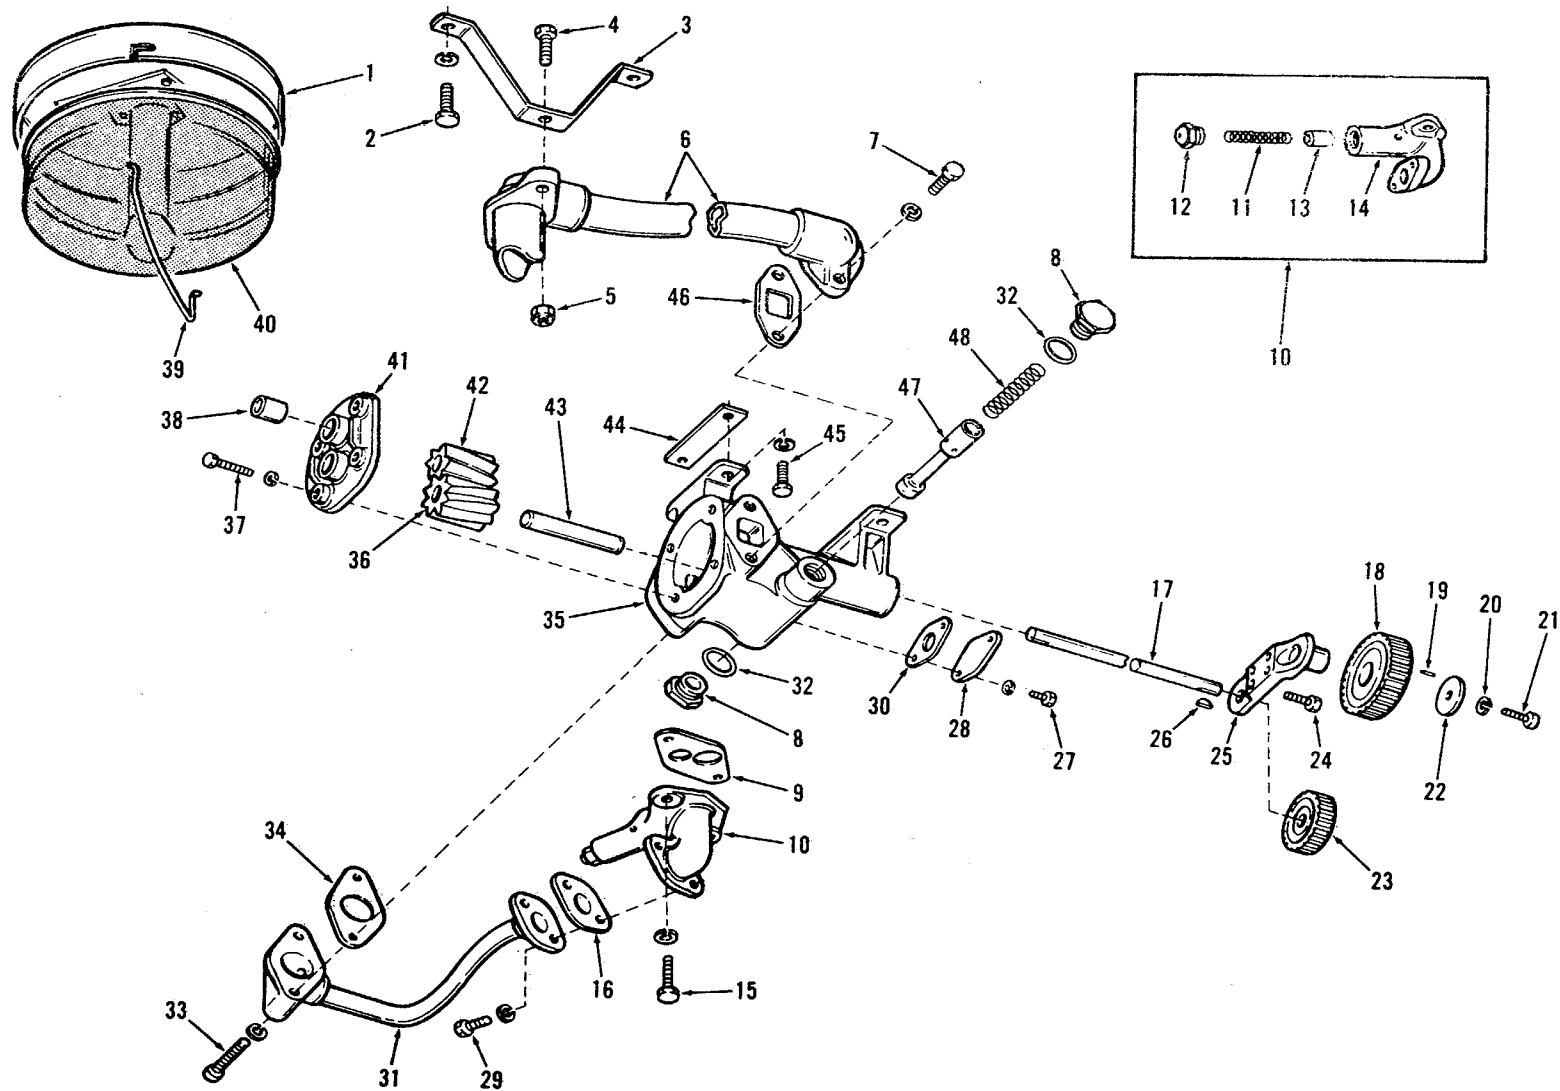

Figure 3-70. Oil pump, removal, disassembly, reassembly, and installation.
Key to figure 3-70.
- (1) Remove the oil pump inlet pipe (6, fig. 3-70) with the screen cover and mounting brackets.
- (2) Remove the oil pressure regulator assembly (10) and the oil pump outlet pipe (31) as an assembly from the pump body (35).
- (3) Remove valve plugs (8) and copper gaskets (32) from each side of the pump body, and jar the relief valve parts (47 and 48) from the pump body.
- (4) Remove the pump driven gear (36) from the driven gear shaft (43).
- (5) Straighten the lip of the lock washer (20) and unscrew the bolt (21) thus freeing the idler gear (18).
- (6) Clamp the pump body, drive shaft, and gear assembly in a bench vise. Pull the drive driven gear (23) from the outer end of the pump drive shaft using a gear puller.
- (7) Remove the woodruff key (26) from the drive shaft and withdraw the shaft and driven gear (36) from the pump body.
- (8) Unscrew the bolt (24) and remove the idler gear support (25) from the pump body.
- (9) If the drive gear (42) is to be replaced, position the gear and shaft assembly on the bed of an arbor press with the long end of the shaft extending down through the slot in the bed plate and with the gear resting on the plate. Place a short (3 or 4 inches long) 1/2 inch round steel rod on the end of the shaft and press the shaft from the gear.
- (3) If the gear teeth are scored or worn, install new gears. The use of excessively worn gears will result in low engine oil pressure which, in turn, may lead to serious damage throughout the engine.
- (4) Inspect the pressure relief valve and its seat in the pump body. If necessary, install new parts.
- (5) Check the pressure relief valve spring. Its free length is 2 23/64 inches and a load of 48 to 53 pounds should compress it to 1.5076 inches. If less than 48 pounds compresses it to this length, replace it.
d. Reassembly. Refer to figure 3-70 and assemble the oil pump as follows:
- (1) Insert woodruff key (26) in the keyway of drive shaft (17) and apply a light coat of engine oil on the shaft. Start the shaft squarely into the bore of the gear (42) and press the shaft into the gear.
(1) Use gear puller J 3051 to remove this gear after removing crankshaft front cover and oil slinger.
(2) A new gear may be installed, after the woodruff key is placed in the crankshaft key slot, by tapping gear into position against the shoulder on the crankshaft with a large sleeve and mallet. Then place the oil slinger on the crankshaft with the dish side away from the gear and replace the front cover.
f. Installation. Refer to figure 3-70 and install the oil pump on the main bearing caps as follows:
(1) Hold the pump assembly against the main bearing caps so the idler gear (18) meshes with the driving gear on the crankshaft.
(2) Insert the four bolts (45) with lock washers through the mounting feet of the pump and into the main bearing caps. Align the pump so that the teeth of the crankshaft gear and the idler gear are parallel; then tighten the bolts to 35-39 lb-ft and check clearance between the gear teeth with a feeler gage. Proper clearance between the crankshaft gear and idler gear is .002 inch minimum, .012 inch maximum.